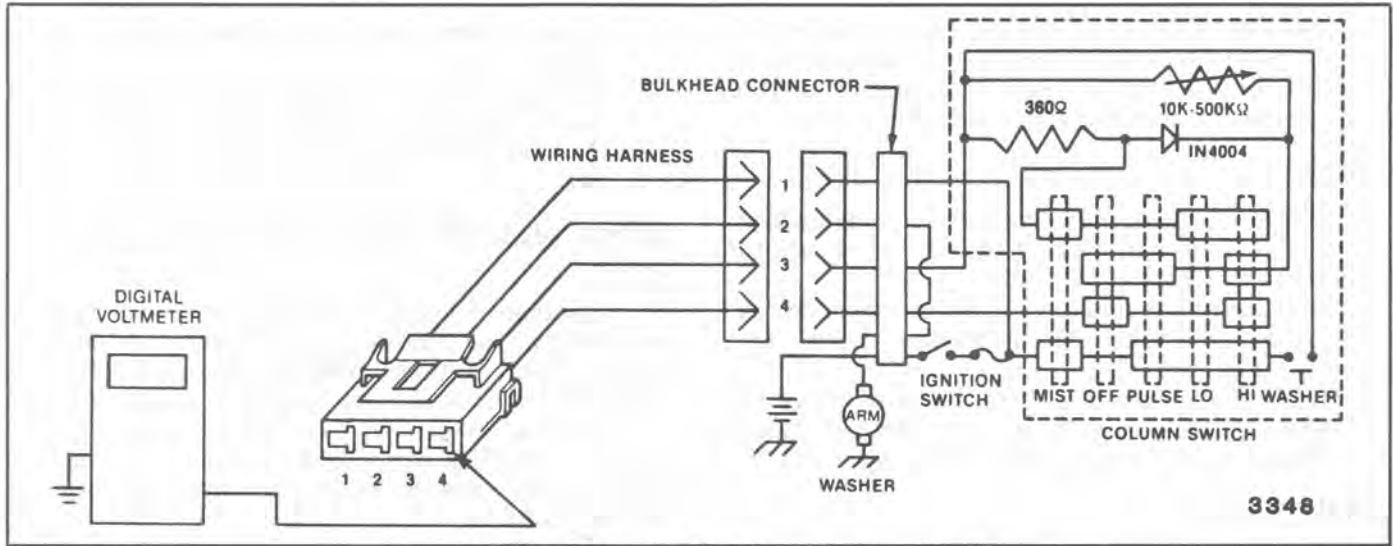

Fig. 7 Wiper and Washer Multi-function Lever Check
1. If wiper motor functions in all above modes, go to Wiper/Washer Multi-Function Lever Test (Fig. 7).
2. If motor runs and pumps water, problem is in circuit board, motor park switch or wiper switch. (See Wiper/Washer Multi-function Lever Test, Fig. 7.)